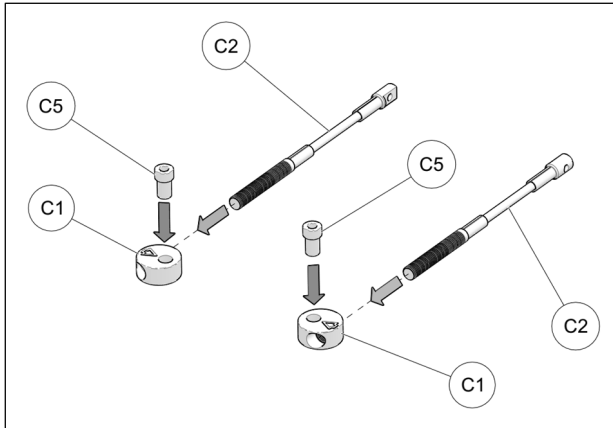

Fig. 17
9. Assemble steering limiter cables (C2), aluminum disks (C1) and step spacers (C5) together as shown on Fig. 17